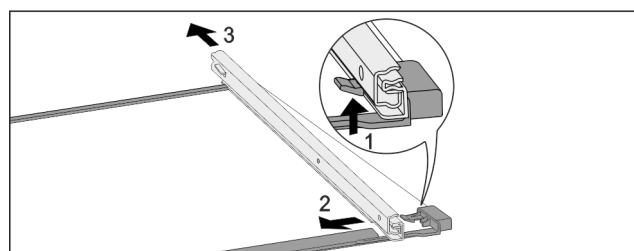

Fig. 200 Glass shelf with rails
- ▶ Push up front click-in hooks. Fig. 200 (1)
- ▶ Move the pull-out rails to the side Fig. 200 (2) and to the rear Fig. 200 (3).